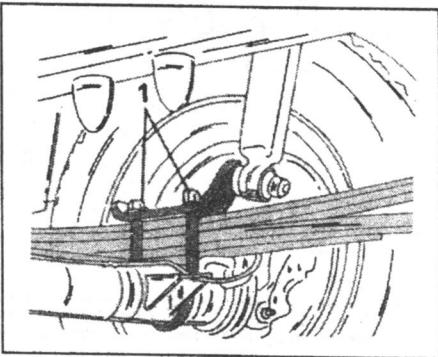

Fig. 7.3. — Attachment of a rear spring to the rear axle tube. The nuts (1) are secured by lock plates. Always replace the latter.
- Slacken and remove the nuts (1) in Fig. 7.3 from the ends of the "U" bolts and carefully drive the bolts out of position. To prevent damage to the threads, tap each side of the bolt alternatively until the "U" bolt drops out. Remove the second "U" bolt in the same manner.